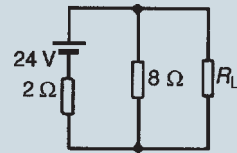

Figure 15.87
2. Determine the value of the load resistance R_L shown in Fig. 15.87 that gives maximum power dissipation and find the value of the power.